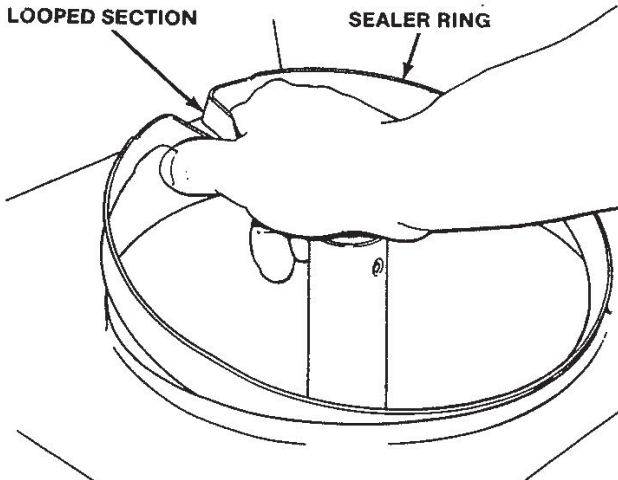

Figure 20. Removing Sealer Ring
2. Remove the sealer ring by squeezing the looped section and lifting out of the product cylinder (Fig. 20).